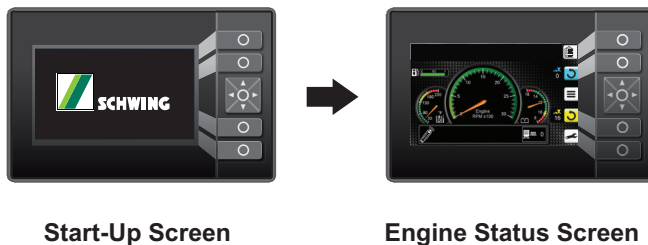

Figure 13
- From the operator control panel, turn the ignition key switch to the RUN position. The SCT2 controller will initialize, and the SCHWING logo will appear on the screen. When the system has finished initializing, the Engine Status Screen will be displayed (Figure 13). Turn and hold the key switch in the START  position; when the engine starts, release. You can't start the engine until the SCT2 controller has initialized.